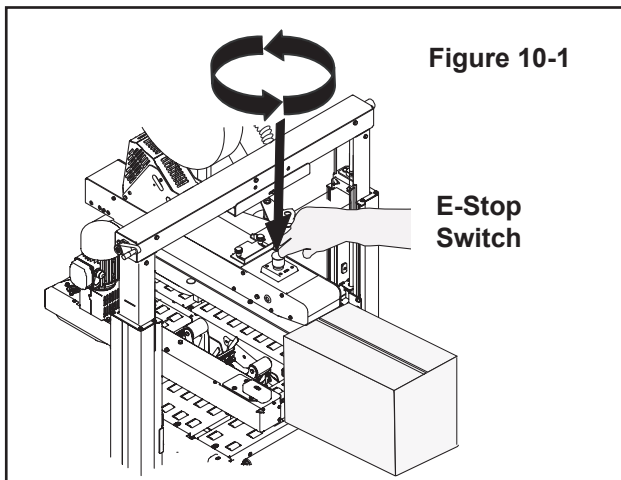

Figure 10-1
The machine electrical supply can be turned off by pressing the latching emergency stop switch. To restart machine, rotate the emergency stop switch clockwise to release the switch latch. Restart machine by Turning the On/Off switch to the Off (O) position and then to the On (I) position (**Figure 10-1**).